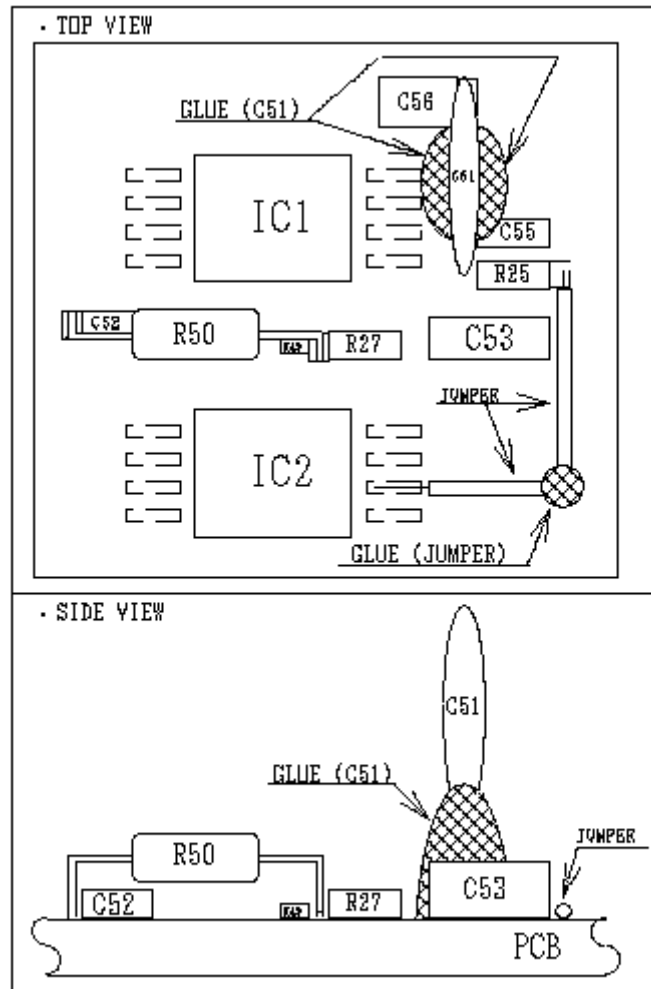

FIG. 2
8. Add R49 (560 ohms) between pin 1 and 2 of IC1, and R27 (as shown in Figure 2)
9. Form the leads of R50 (as shown in Figure 1), then add R50 (1K ohm) between R27 and the ground at C52 (as shown in Figure 2)
10. Install a jumper from the pin 6 pad for IC2, to R25 (as shown in Figure 2)
11. Using the silicone sealant, stake down the jumper wire (as shown in Figure 2)
12. Form the leads of C51 (as shown in Figure 1), then using the silicone sealant for mechanical stability, install one end of C51 (.01uF) to the C55 / IC1 pin 6 junction, and install the other end of C51 to the ground at C56 (as shown in Figure 2).